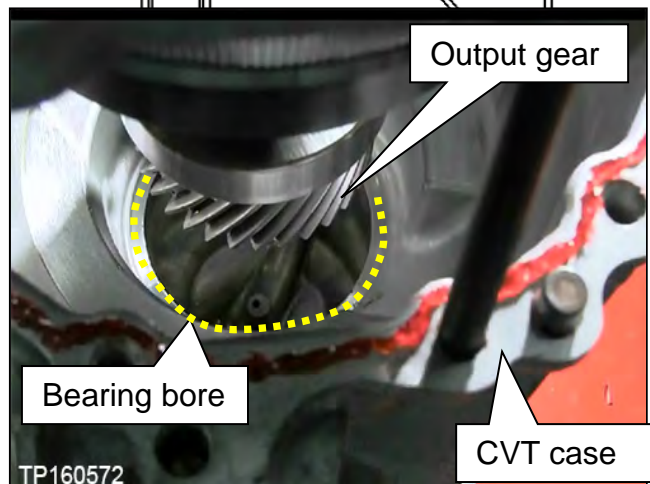

Figure 25E
- While visually looking down into the bore (Figure 25E) to confirm that the output gear is clearing the CVT case bearing bore,
- If the sub-assembly will not lower any farther than 50 mm (2 inches) the output gear has not cleared the bearing bore (Figure 25E).